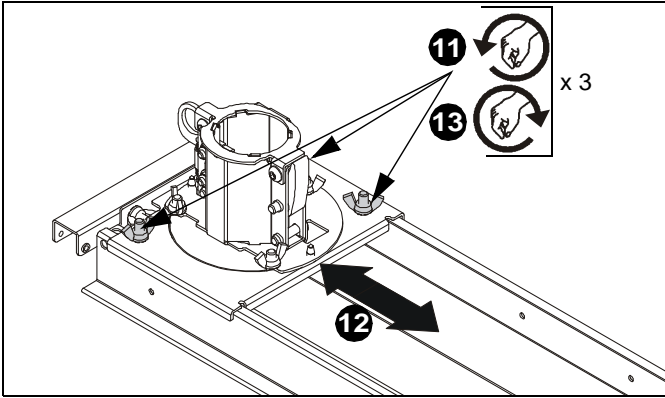

Figure 10
11. Loosen three wing nuts in upper side of ceiling plate assembly (R) to adjust the lateral shift of the column support. (See Figure 10)
12. Position column support (as required) to center support over ceiling tile hole. (See Figure 10)
13. Tighten wing nuts to prevent further movement of column support. (See Figure 10)